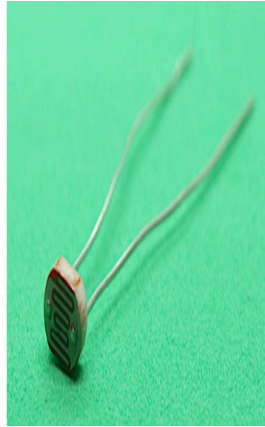

Figure 4.2 – A typical photoresistor
A **photoresistor** is an electronic component made with light-sensitive material, changing its resistance according to the amount of visible light that it detects. There are different types of photoresistors. Some of them detect **ultraviolet (UV)** light and others detect infrared light. The latter is used in TV sets, where its infrared light sensor receives data from a remote control. *Figure 4.2* shows a common photoresistor used in the examples of this chapter. The photoresistor used in this chapter detects regular light that humans can see. It does not detect infrared nor UV light.
From *Figure 4.2*, you can see that the photoresistor has two pins (also called legs). They are connected to an electronic circuit similar to regular resistors, so photoresistors do not have polarity. They work as a regular resistor that changes its resistance according to the amount of light it receives through its transparent cover. Here are some technical specifications of the photoresistor: